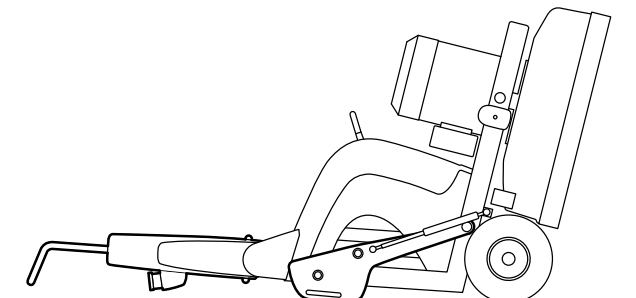

Figure 4-8 Rests on the floor
4. Tip the machine further back, until all of the machine reaches the floor, see Figure 4-8 on page 20.